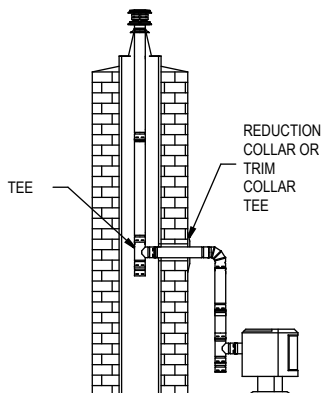

Figure 16
1. Set the appliance in its final location and mark the center of the hole where the pipe is to penetrate the masonry chimney (**Figure 16**). Insure that you comply with the manufacturer's specifications in regards to clearance and distances from combustible surfaces.
B. A Tee is installed at the bottom end of the vertical pipe (**Figure 16**).
C. A Reduction Collar or a Trim Collar is required to go around the pipe section that passes through the masonry to give it a finished look (**Figure 16**).